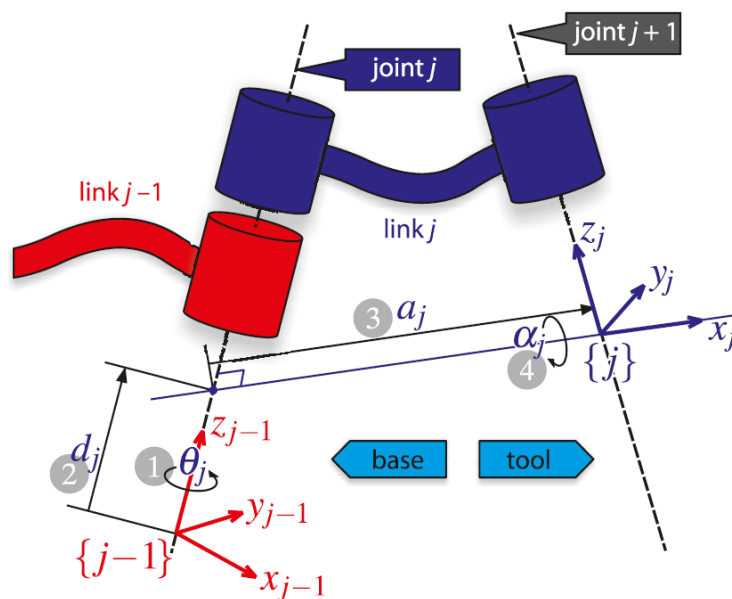

Figure 1: Definition of standard Denavit and Hartenberg link parameters
Denavit-Hartenberg (DH) notation is a systematic way of describing the geometry of a serial link manipulators as portrayed in Fig. 1. Forward kinematics is the mapping from joint coordinates, or robot configuration, to end-effector pose. On the other hand, if we know the pose of an object, finding what joint coordinates the robot needs to reach it, is the inverse kinematics problem.
Table 1 defines the DH parameters for the link j depicted in Fig. 1.